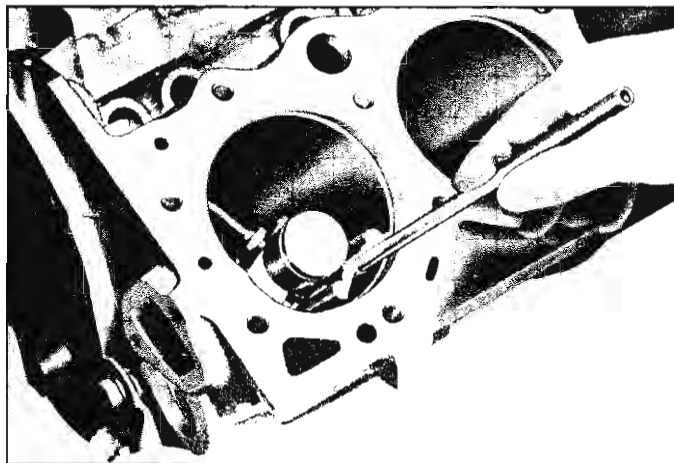

Fig. 162—Checking Cylinder Bores
7. Check the cylinder walls for taper, out-of-round or excessive ridge at top of ring travel. This should be done with a dial indicator (fig. 162). Set the gauge so that the thrust pin must be forced in